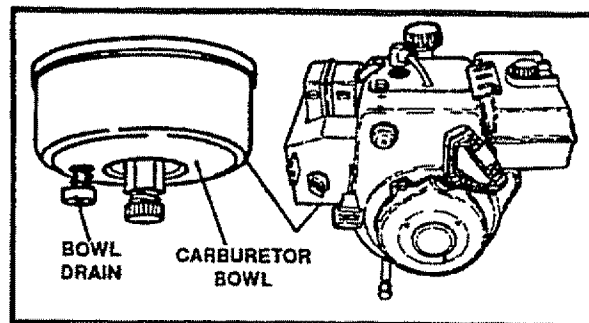

FIG. 42
- To remove gasoline, run the engine until the tank is empty and the engine stops. Then drain remaining gasoline from carburetor by pressing upward on bowl drain located on the bottom of carburetor (See Fig. 42).